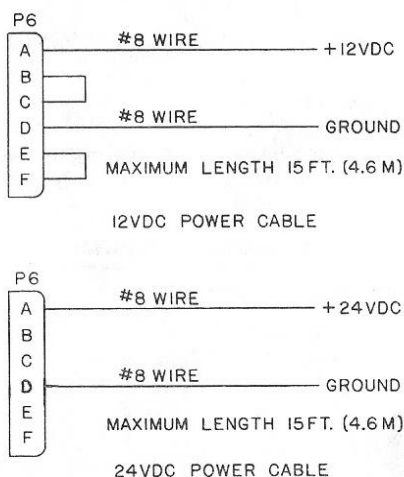

Figure 3. DC Power Cables.
Connector for cable to dc primary power source (see fig. 3).
b. Connections to direct current primary power are made directly to the battery with one of the cables illustrated in figure 3. Be sure the connections are secure and clean. The other end of this cable is connected to the DC INPUT jack on the rear panel of the transceiver. Make certain the cable plug is fully inserted and secure in the jack.